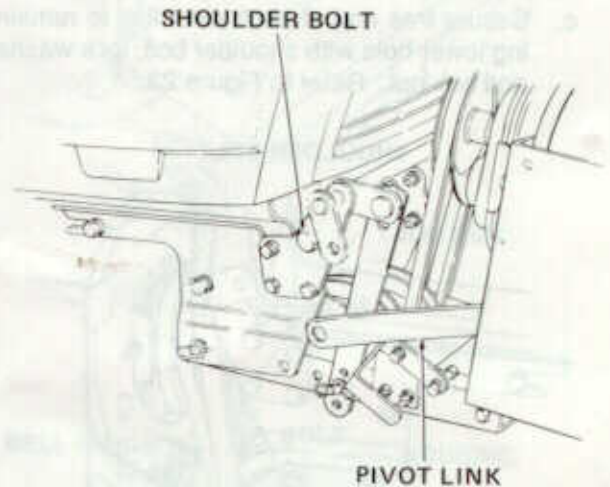

Figure 20
- a. Remove shoulder bolt, lock washer and hex nut from top holes in undercarriage. Refer to Figure 20.